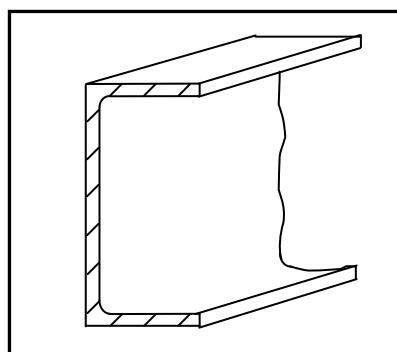

FIGURE 1.5
1.5 FIGURE 1.5 below shows a steel profile.